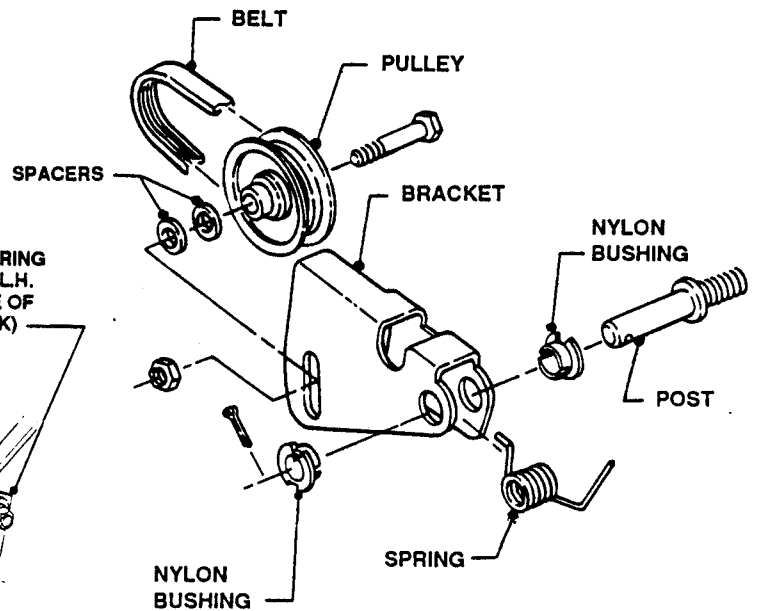

FIGURE 21
14. Remove Idler Pulley from bracket (MARK IDLER LOCATION!). See Figure 21.